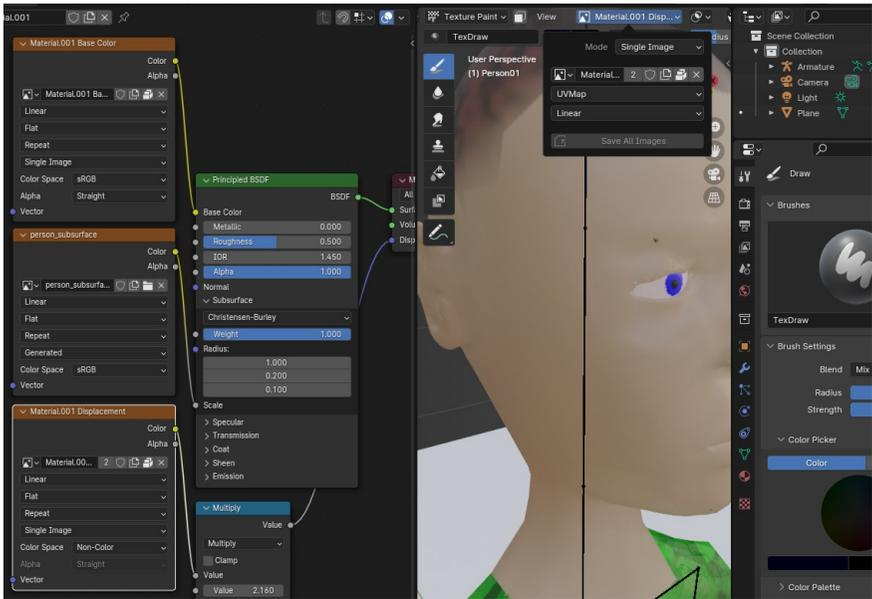

Figure 5-7 Painting a subsurface map texture
6. Change the color of the paint either using the tool controls in the header at the top of the editor, or in the Active Tool and Workspace settings tab. Most of the options are duplicated in the two places and many are the same as for sculpt brushes. However, before Blender 4 it was possible to specify Material or Single Image in the properties tab, but now this must be done in the header, see the top of Figure 5-7.
20. Change back to the Texture Paint preset using the menu at the top then click on the texture selector in the header, visible at the top of Figure 5-7. This should display the name of the new image texture you just created but sometimes Blender doesn't refresh this straight away. Change the Mode from Material to **Single Image** and make sure person_displacement is selected. Draw with a fairly dark gray in the hair area.
22. The **Save All Images** button is now hidden inside the material or texture selector in the header, visible at the top of Figure 5-7. Click on that button now.
In reality the amount of subsurface scattering varies from lips to cheeks to chin so this would be a good instance where it would be useful to be able to paint a texture which can then used in a more general way. This is the technique I referred to in the previous chapter for controlling the worn areas of the refrigerator rather than relying on the Geometry node pointiness. You can see the screen layout for the following instructions in Figure 5-7.
11. Connect the Color output to the Subsurface Scale input of the shader as shown in Figure 5-7.